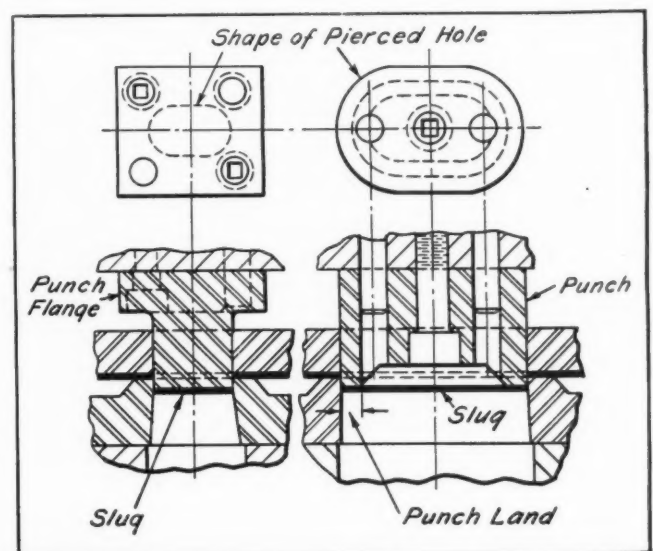

Fig. 9. Solid Type Punches Designed with
1. A solid type punch can be machined from steel. The screws for holding the piercing punch to the upper shoe should be arranged so that the screw-heads are in the punch. The punch can then be removed from the completed die by first removing the inside stripper plate, without taking the die out of the press. Large punches do not require flanges if the punch area is great enough for screws and dowels. (See Fig. 9 for examples of punches with and without flanges.)